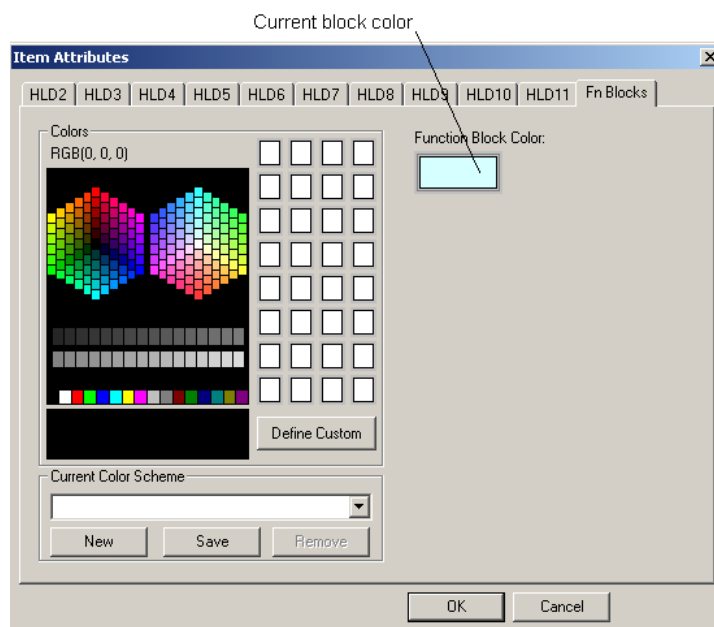

Figure 6-20 Item Attributes – Fn Blocks tab
2. Click the **Line Connection Attributes** button on the **Line Connection** toolbar. The Item Attributes dialog displays. See Figure 6-20.